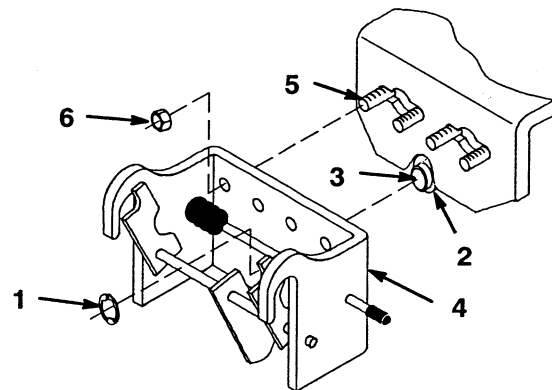

Figure 5
1. Remove the E-ring and all washers except one thick washer from the front axle pivot pin of the tractor (Fig. 5).